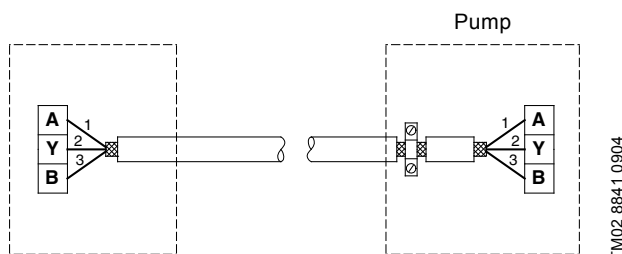

Fig. 20 Connection with screened 3-core cable
- If the unit has no cable clamp as shown in fig. 20, leave the screen unconnected at this end.